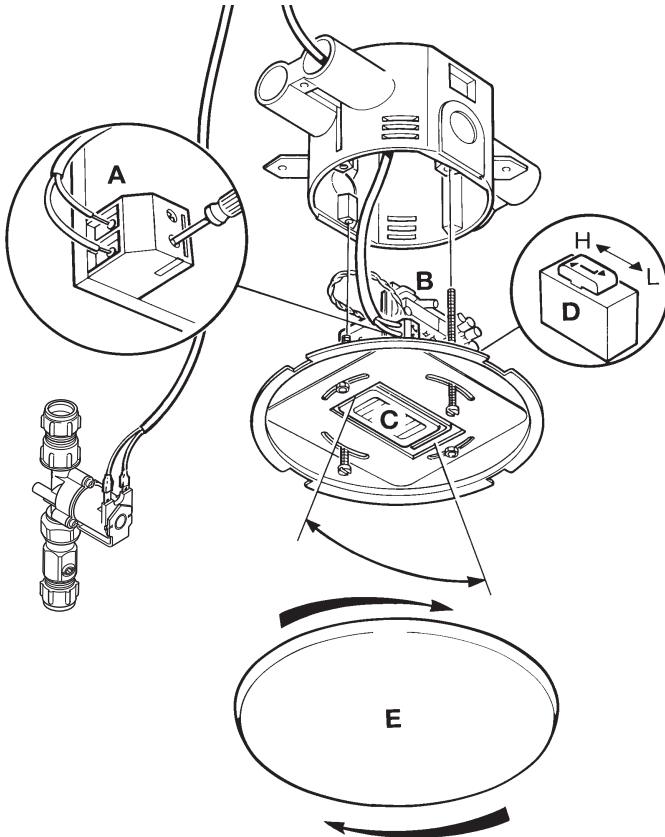

Figure 8
3. Connect the two-core cable to the connector block **(A)** on the Sensor internal circuit board **(B)** (refer to Figure 8). Wiring polarity is not important.
2. The sensor alignment is adjusted by gently swivelling the sensor on its mounting bracket (refer to Figure 8). The delay/flush cycle should be activated by the presence of a user within the urinal area.